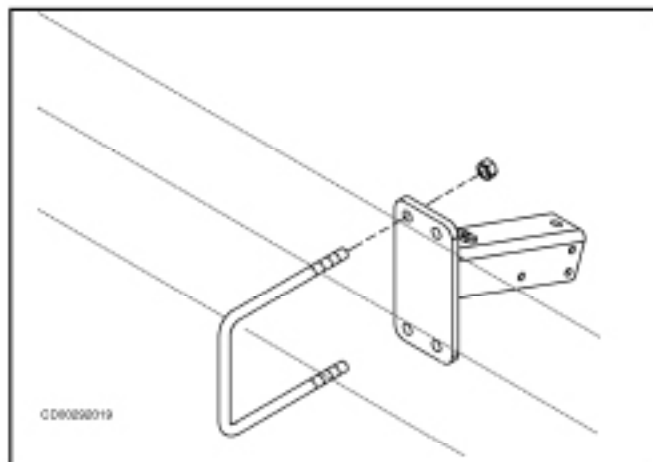

Figure 38 Toolbar Mounted Rolling Shield
1. Fasten mount to toolbar, using 5/8" U-bolt and flanged nuts as shown in Figure 38. Be sure mounts are centered over the row.